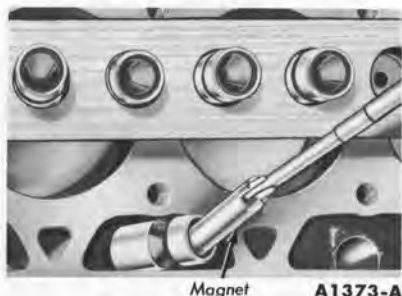

FIG. 50—Valve Tappet Removal
tappets and keep them in order so that they can be installed in their original location (Fig. 50).
2. Using a magnet, remove and install one tappet at a time (Fig. 50). Apply Lubriplate to each tappet foot and coat the remainder of the tappet with engine oil before installation.